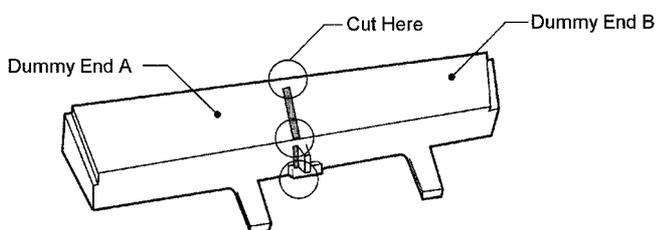

Figure 7-6 Cutting Dummy End in Half
7. Cut the dummy end in half as shown in *Figure 7-6 Cutting Dummy End in Half*.